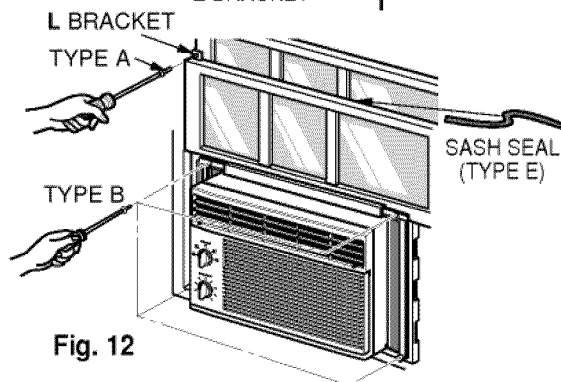

Fig. 12
Extend the guide panels (TYPE F) to fill the window opening using 4 screws (TYPE B) to secure them, as shown in Fig. 12.
a. Cut the sash seal (TYPE E) to the window width. Stuff the sash seal between the glass and the window to prevent air and insects from getting into the room, as shown in Fig. 12.
b. Fasten the sash lock using a (TYPE A) screw, as shown in Fig. 12.